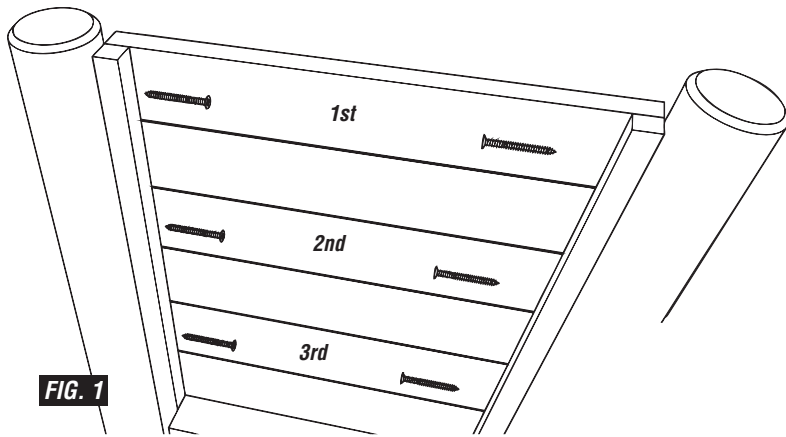

FIG. 1
**B) THE PRE-ASSEMBLED PANELS HAVE 43X43 TIMBERS EITHER SIDE - SCREW THROUGH THE SUPPORT AND INTO THE ROUND TIMBER (FIG. 1)**